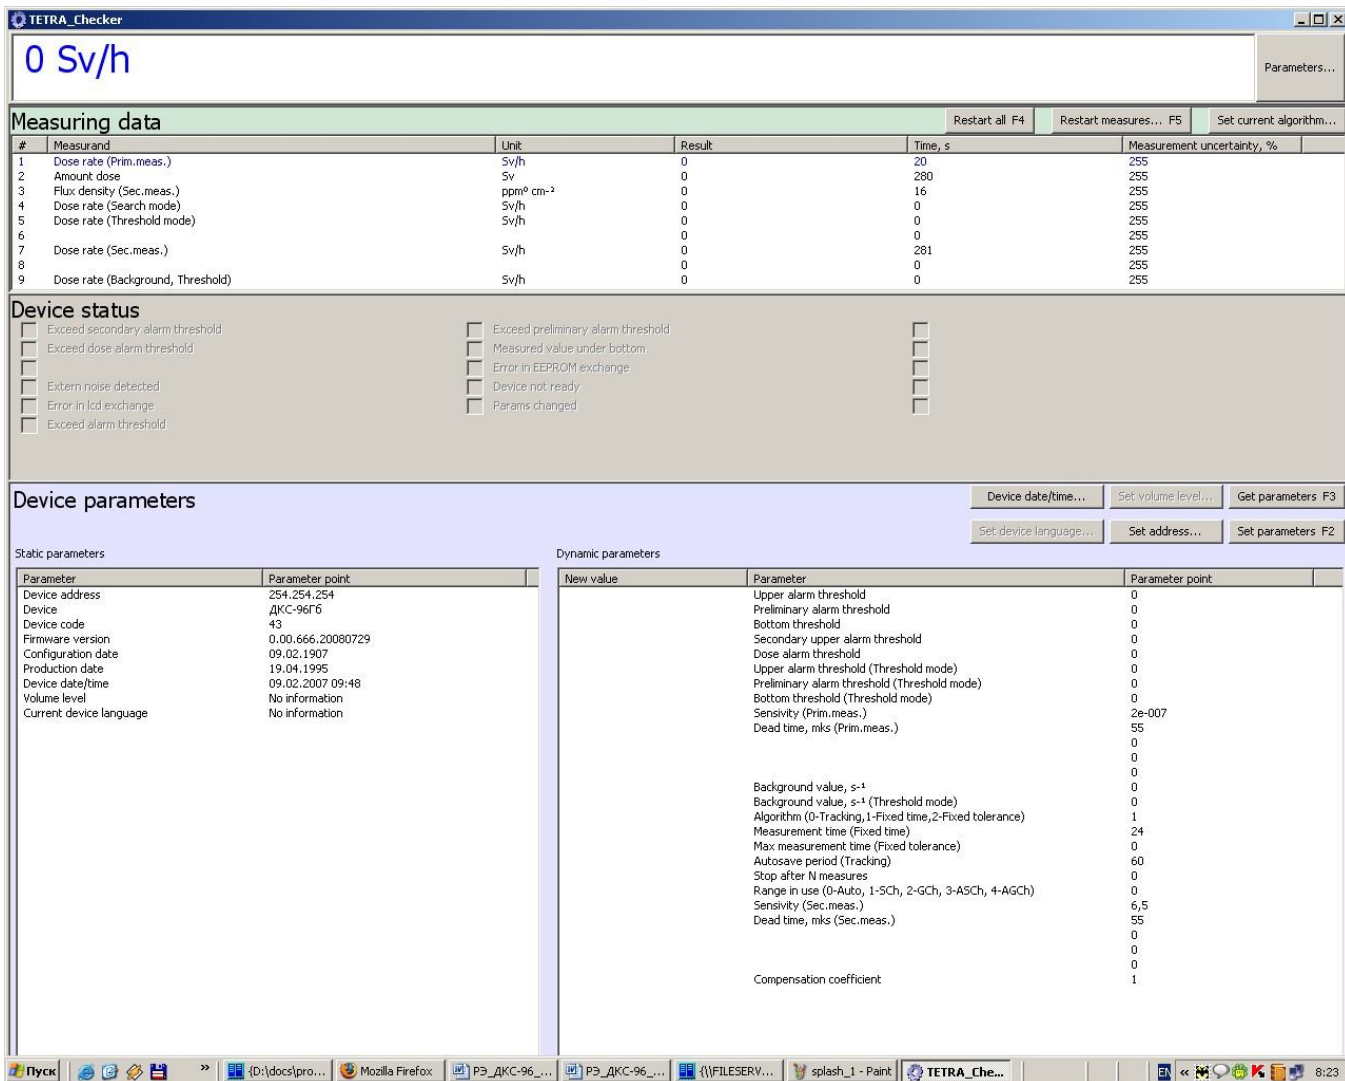

Figure 3.3
3.6.3 Install "TETRA\_Checker" software from installation disk. Run the program. The general form of the program window is shown in Figure 3.3. Turn the dosimeter/radiometer on by pressing ⓘ; the name of the program will be displayed in the upper left corner and the version of software – in the "Device parameters" window.